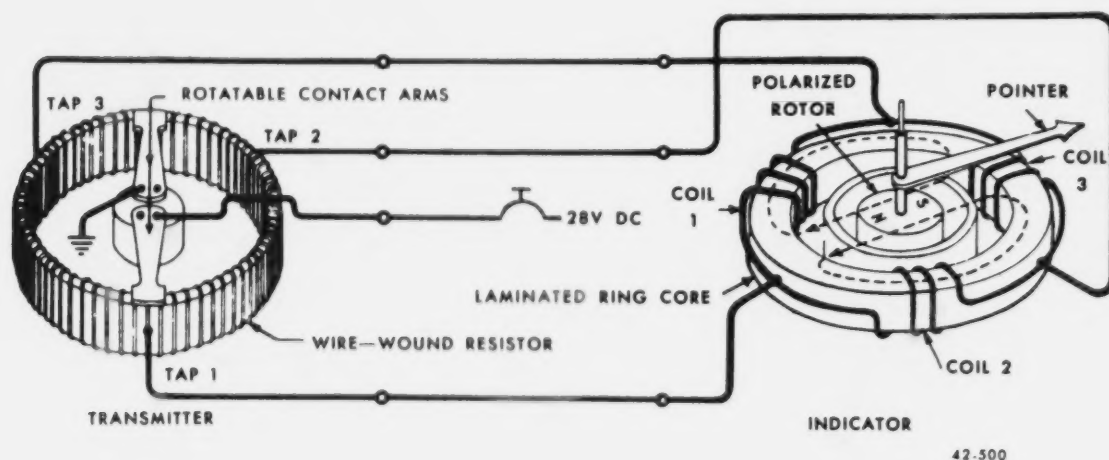

Figure 3-5. Position indicating system.
Transmitter. The transmitter consists of a circular resistance winding with three taps 120° apart. Notice in figure 3-5 that the two wipers mounted on the transmitter shaft make electrical contact with the resistance winding at points that are 180° apart. These wipers are rotated by transmitter shaft movement. One of the wipers is connected to the DC bus. The other wiper is connected to the aircraft ground through the transmitter case.
Indicator. The electrical mechanism of the indicator is a coil connected by wiring to the transmitter. Figure 3-5 is a schematic of the electrical system. Voltages that vary with the position of the transmitter wipers cause electrical currents to flow in the indicator field coils. The currents through two adjacent coils in the indicator are flowing in such a direction as to set up opposing fields in the laminated ring. As a result, instead of the flux going around the ring, it is
forced out of the ring. It must cross the inside space. The path of the flux is shown by the dotted lines through the indicator in figure 3-5. As the voltage at the transmitter taps is varied, the distribution of current in the indicator coils is affected. The direction of the magnetic field flowing across the indicating element is changed. As the magnetic field changes direction, the polarized (permanent magnet) rotor follows it. There are no springs or restraining forces on the rotor. Its movement is independent of the power source voltage. Likewise, since the coils are arranged symmetrically, the rotor position is not affected by the changes in coil resistance occurring with changes of temperature. How accurately the polarized rotor will follow is dependent upon the accuracy of the spacing of the coils and taps. Therefore, the transmitter and indicator in the system must be matched. Many indicators and transmitters are identical in their outward appearance. Their part numbers must be carefully checked to avoid mismatches.
System Operation. So that you will better understand the operation of the selsyn system, let's assign some voltages to the units shown in figure 3-5. You should be able to see that, if 28-volt DC power is applied to the power contact arm, the voltage must be dropped between the power contact arm and the ground contact arm. With the contact arms positioned as shown in figure 3-5, tap 1 of the transmitter resistance strip would be at a 28-volt potential. The ground contact arm would be at a 0-volt potential. Since tap 2 of the resistance strip is about one-third of the distance between the ground contact arm and the power contact arm, about one-third of the distance between the ground contact arm and the power contact arm, about one-third of the applied voltage will be dropped at tap 2. The same condition will apply to tap 3. This means that the voltages felt at the taps will be as follows: tap 1, 28 volts; tap 2, 9 volts; and tap 3, 9 volts.
Study figure 3-5. Notice that the wires connected to the taps of the transmitter resistance strip are also connected to points between each coil of the indicator. Follow the wire connected to tap 1 across the diagram to where it connects between coil 1 and coil 2 of the indicator. You will see that the 28-volt potential from tap 1 of the transmitter will be present at this point. Now follow the wires connected to taps 2 and 3 of the transmitter, and you will see that the same 9-volt potential of these taps will be applied to these points between the indicator coils. With these potentials applied to the indicator coils, let's see what happens. Because both ends of coil 3 are at the same potential (9 volts) no current will flow in coil 3. However, a difference in potential exists across coil 1 and coil 2, (the difference between 9 volts and 28 volts). Because of this, current will flow through coils 1 and 2 from the 9- to the 28-volt potential. This creates the
magnetic field represented by the dotted lines in figure 3-5. The permanent magnet rotor will align with this field. This causes the pointer to show the position of the wing flaps. As the contact arms are repositioned to show the position of the wing flaps. As the contact arms are repositioned on the resistance strip, the voltage changes will create a magnetic field change in the indicator. This change in magnetic field direction will cause the pointer to show the new position of the wing flaps.
3. Referring to figure 3-5, how much of the applied voltage is dropped between tap 2 and the ground-contact of the position transmitter with the transmitter wiper as shown?
4. Referring to figure 3-5, assume that the transmitter wiper power contact moved around the resistance strip to align with transmitter tap 2. State the direction in which the indicator pointer would point.